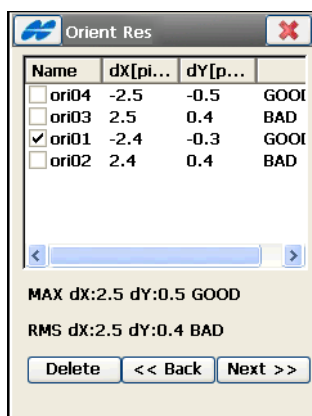

Figure 11-40. Delete Orientation Points
- **Meas** – measures the orientation point. The bitmap menu options (*Meas, From Map, From List*) are used to take a measurement or to select an existing point from a map or list (Figure 11-40).
-  – opens the **Orientation Res** screen (Figure 11-40 on page 11-38) to delete the selected orientation points.